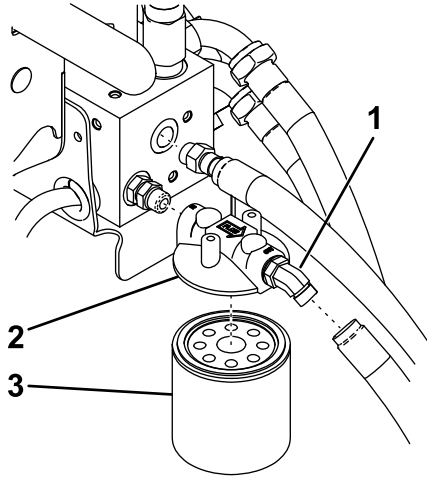

Figure 12
- Apply a thin film of hydraulic fluid to the filter and install the filter head, filter, and 45° hose fitting to the fitting in the T port on the manifold as shown in Figure 12.